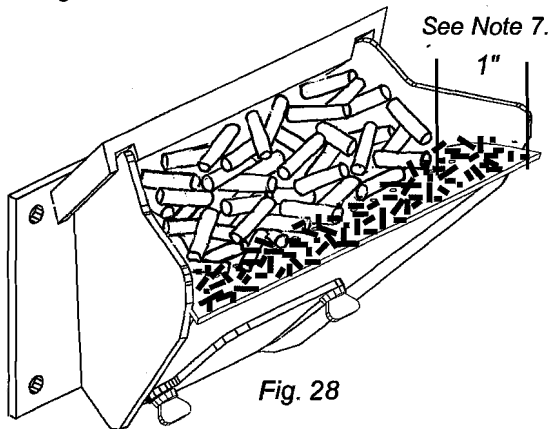

Fig. 28
7. Setting the feed adjuster # for maximum burn: With the unit burning in "AUTO", turn to "Stove Mode" and put the fan on "H". Set the Temperature Dial to #7. Allow the unit to burn for about 30 minutes and check ash on front of burn pot. Fig. 28. If the ash line is larger than 1", turn the feed adjuster from #3 to #4. Allow another 30 minutes of burn time and check again. If, at #6 setting, a 1" or less ash bed is not obtainable, it is not a problem. The 1" ash bed is only a maximum burn rate and at most normal settings the ash bed will be larger.